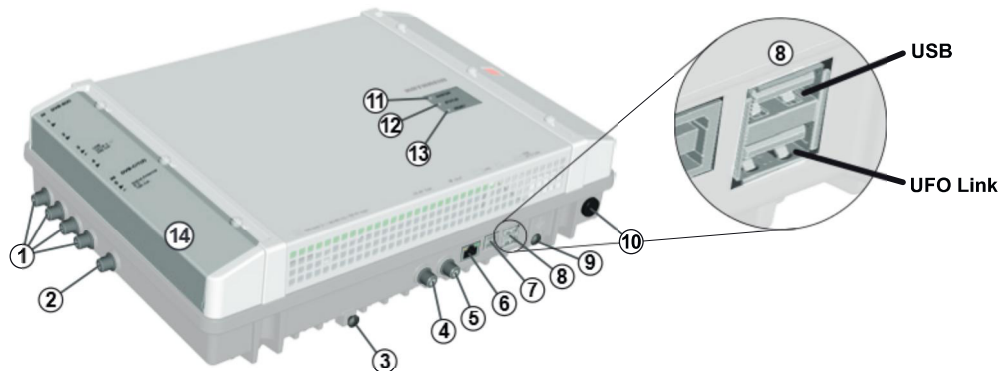

Fig. 1: Device elements
- Do not open the casing and do not modify the device. Otherwise the guarantee and warranty will become void. Exception: Cover of the CI slots (14 in Fig. 1, P. 3)
1. Connect a potential equalisation wire (Cu,  $\geq 4 \text{ mm}^2$ ) to the earthing screw; see ④ in Fig. 1, P. 3.
- The plugs must be inserted into the master and slave at the appropriate UFO link interface ports (③ in Fig. 1).